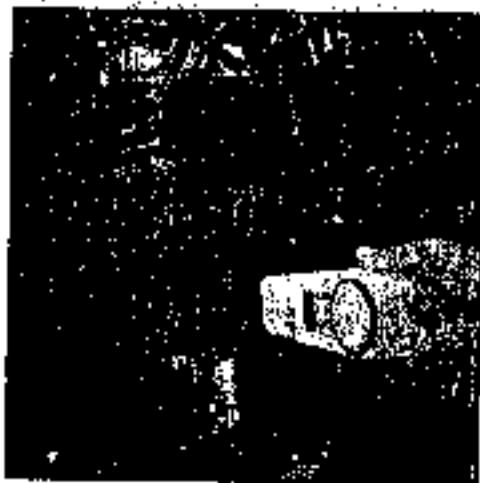

Fig. 5-26 Measurement of control force
4.5.4 MEASUREMENT OF CONTROL FORCE (See Fig. 5-26)